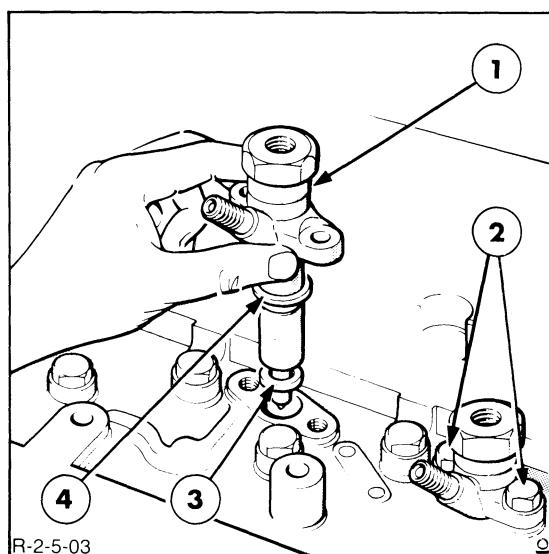

Figure 23
- Install the injectors with new seat washers and cork seals, Figure 23.